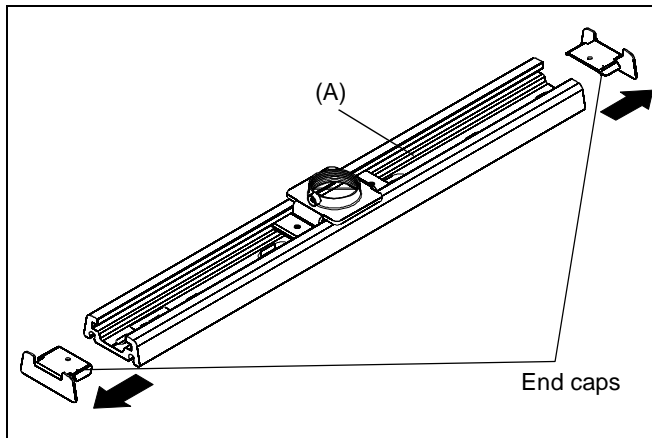

Figure 1
1. Remove end caps from ceiling plate (A). (See Figure 1)